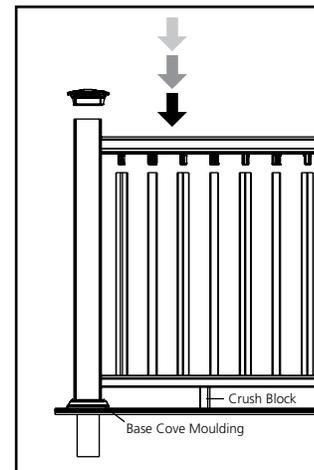

Figure 25
10. Place crush block on the deck surface midway between the posts (Figure 25).
20. Once all of the balusters are engaged, gently push down on the top rail until the bottom end of the balusters contacts the bottom rail (Figure 25). The flange of the top baluster insert should be tightly secured between baluster and the underside of the top rail.